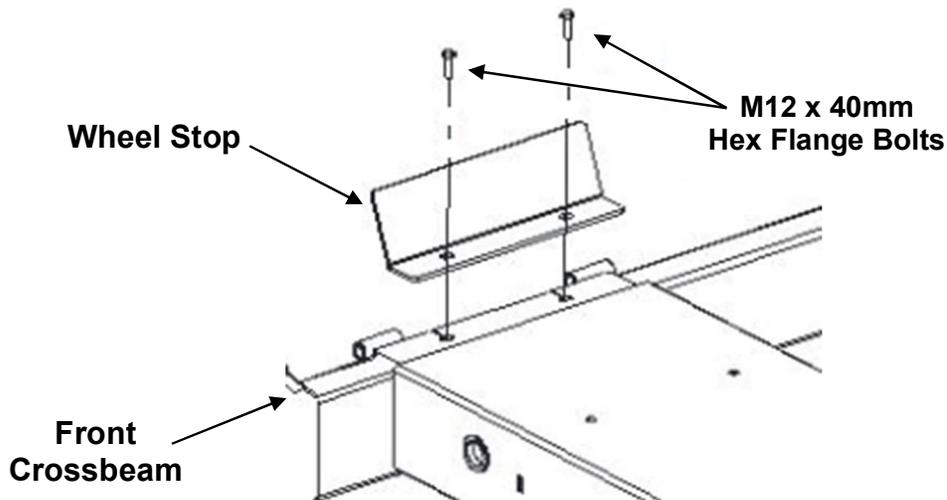

Fig. 9
- 8) Bolt the front of runways with wheel stops onto the front crossbeam by aligning the two holes in the top of the front crossbeam tube with the slots in the runway end plates and the holes in the front wheel stops. Secure runway & wheel stop to the crossbeam using four **M12 x 40mm** hex flange bolts, **Fig 9**.